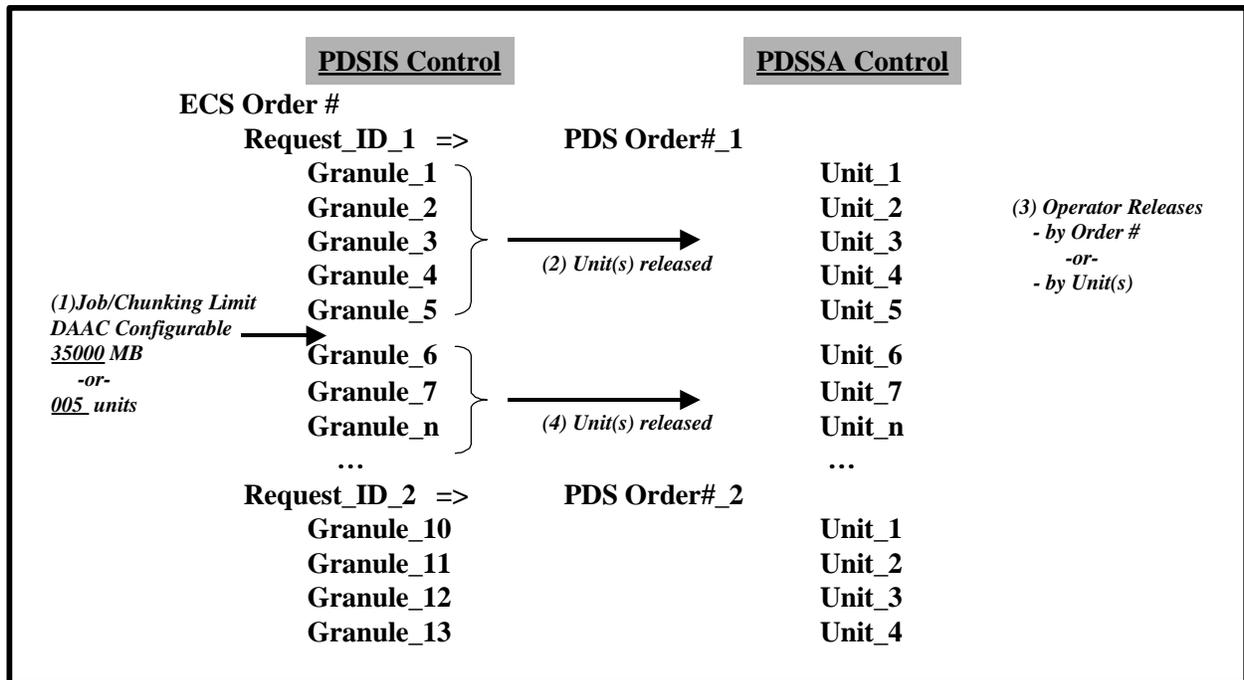

Figure 21. ECS to PDS Order “Chunking” Job Limit Setup
- ECS to PDS order “chunking”/job limit setup is shown in Figure 21.
- "Chunking" limits are set to a physical size limit and number of units (e.g., a chunk is 35000 MB (35GB) or five (5) units).